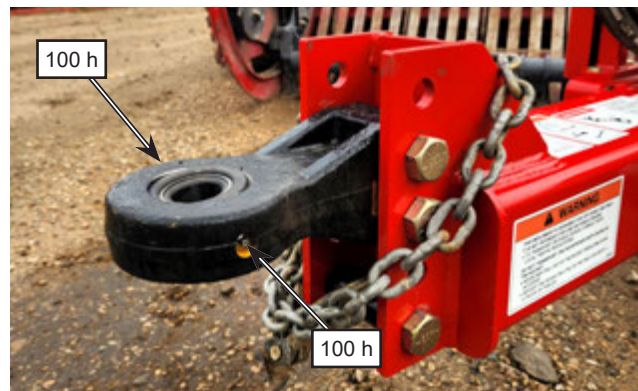

Figure 6.18: Grease hitch tongue
- a. 2 grease points on the sides of the hitch; see Figure 6.18.